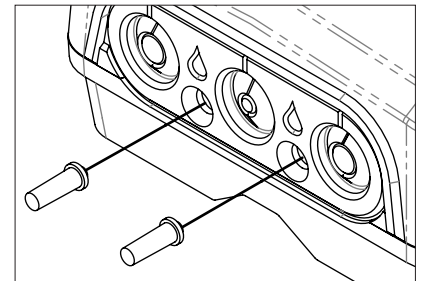

Figure 6 - Drain plug removal
2. Plugs should tear away from grommet to reveal the drain holes (see Figure 6).